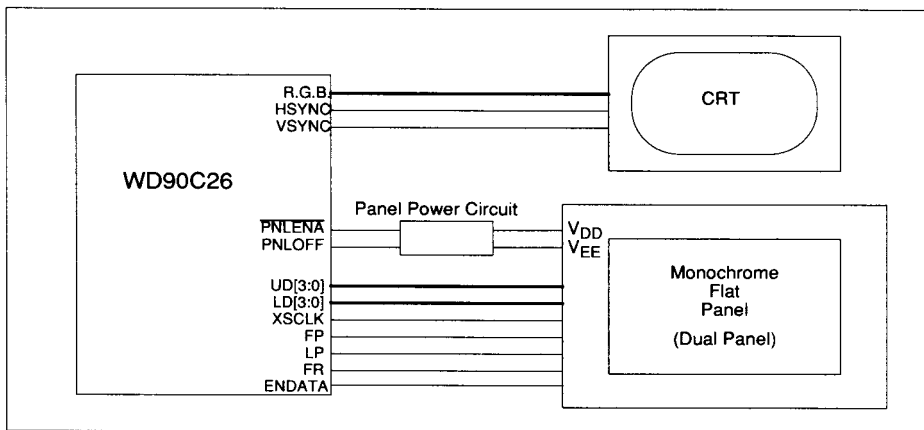

FIGURE 6-18 MONOCHROME LCD PANEL INTERFACE
- Monochrome LCD Panel Interface (Figure 6-18)